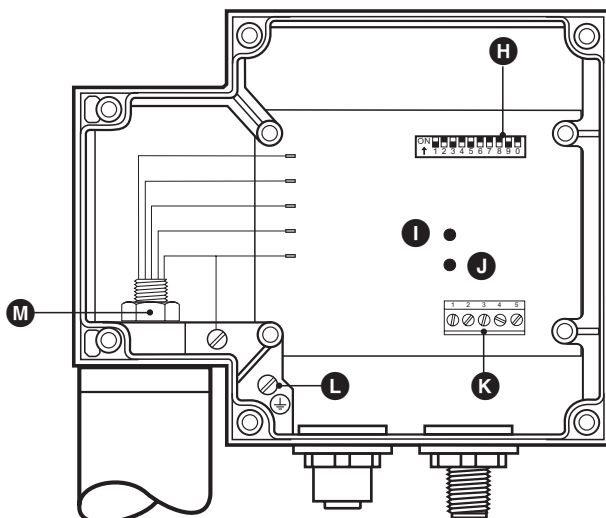

Fig. 6
2. Loosen screw **M** with 17 mm spanner but do not remove. **Fig. 6**